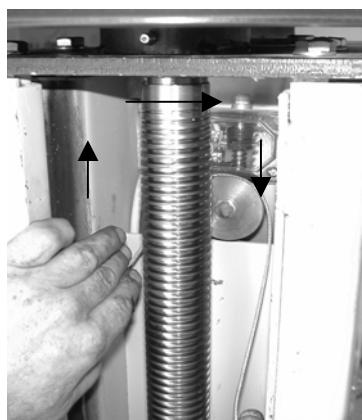

Fig.21
2. Withdraw the cable from the upper part of the carriage and insert it into the pulley situated on the emergency limit switch at the top of the post. (Fig.21).
The cable must be inserted from the left side of the pulley and emerge from the right (Fig.21).